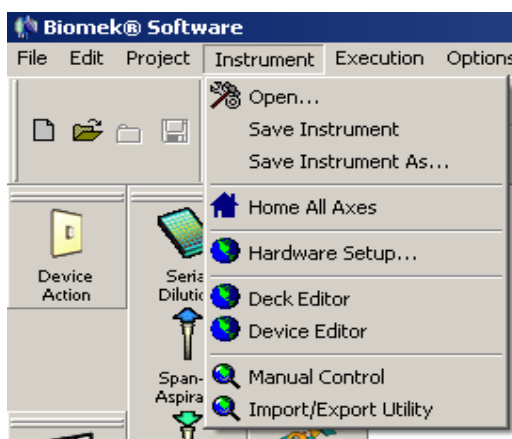

Figure 1. Selecting the Deck Editor from the Instrument drop-down window.
- 2.2 Using the Instrument drop-down window, shown in Figure 1, select the Deck Editor.